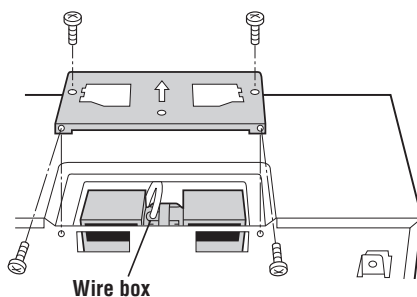

Figure 11
5. Replace the fan cover bracket. Make sure the fan blades are visible through the rear openings in oven before proceeding. Attach the fan cover bracket to the unit with the 4 screws removed in step 1 above. See Figure 11. The hood fan is now rotated for horizontal exhaust operation.